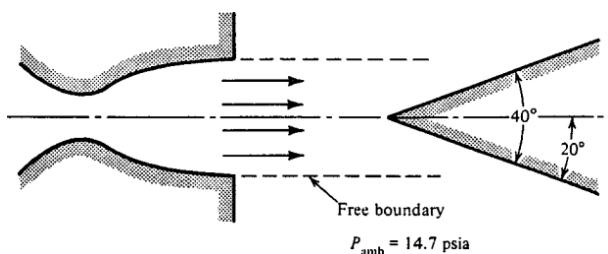

Figure P8.12
- 8.12** Air flows through a converging-diverging nozzle that has an area ratio of 3.5. The nozzle is operating at its third critical (design condition). The jet stream strikes a twodimensional wedge with a total wedge angle of 40° as shown in Figure P8.12.